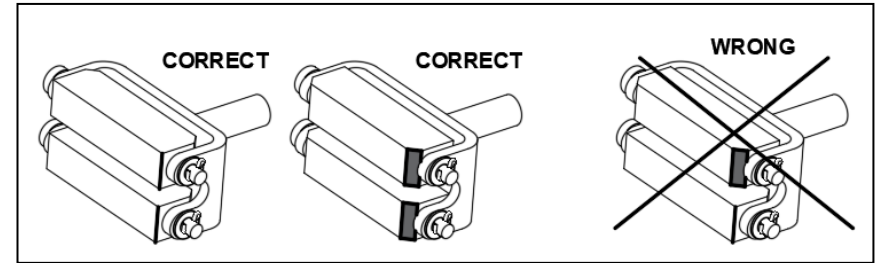

FIGURE 5-14
- (b) The carbon block must be installed with both halves in the same direction ; both pointed with chamfer toward the beta ring, or vice versa (figure 5-14). If side clearance exceeds serviceable limit, turn both halves and establish the side clearance as for new carbon block.